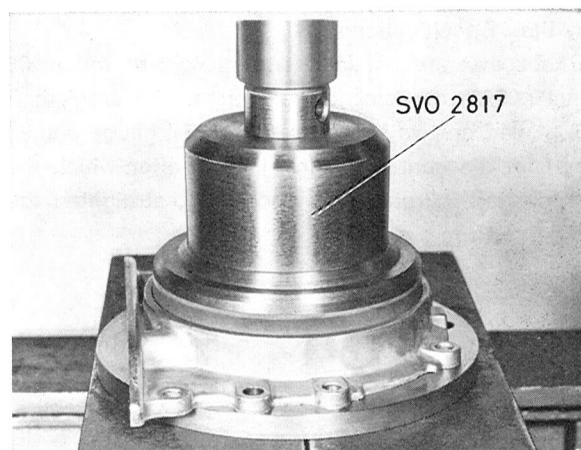

Fig. 2-46. Seal installation
3. Press in the seal with tool 2817, see Fig. 2-46. NOTE: First inspect the wear surface of the crankshaft.